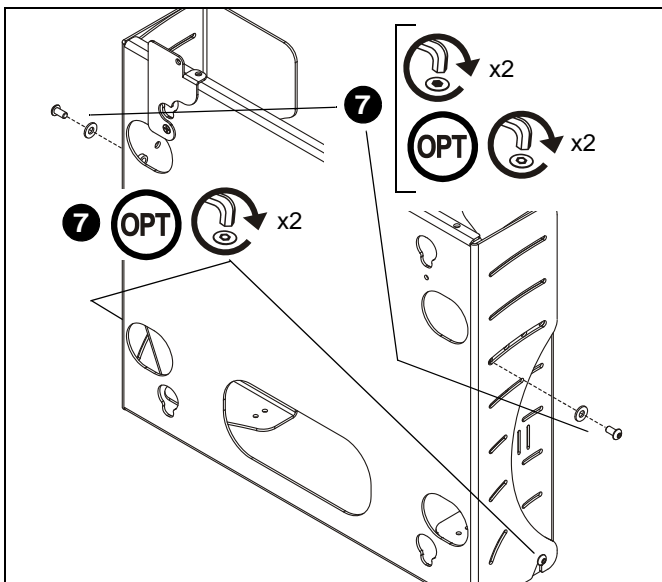

Figure 6
5. Tighten strap (E) securely.
7. Using key (F), re-install the retained upper front plate attach screws and washers (See Figure 6).